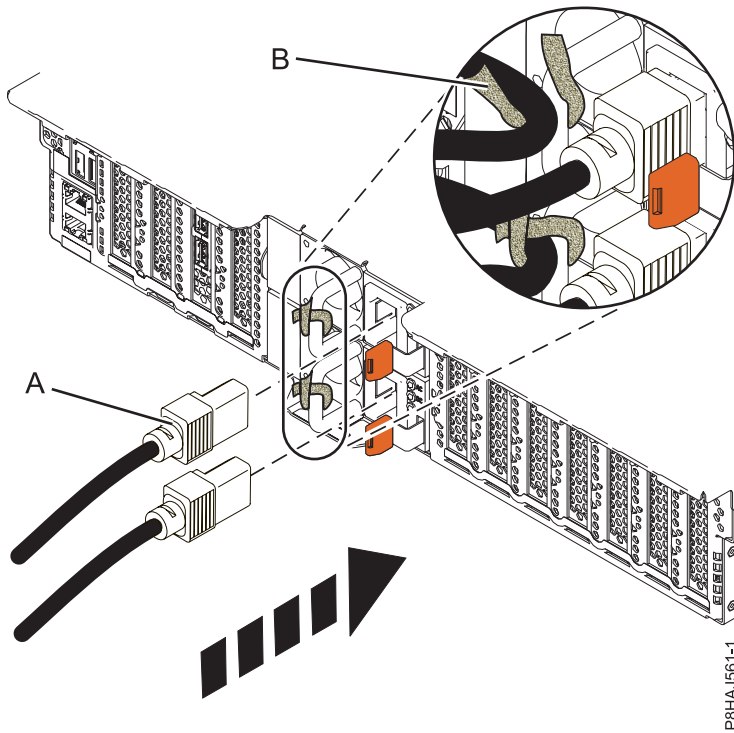

Figure 39. Connecting the power cords to a 8247-21L, 8247-22L, or 8284-22A system
2. Reconnect the power cords **(A)** to the system unit. See figures Figure 38 on page 49 or Figure 39 on page 49 depending on the type of your system.